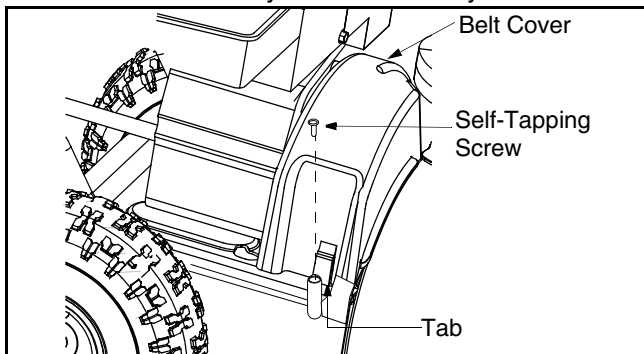

Figure 13
- Remove the self-tapping screw shown in Figure 13, and press the plastic tabs to release the belt cover. Pull the belt cover out from around the engine and the chute assembly. Remove it away and save.